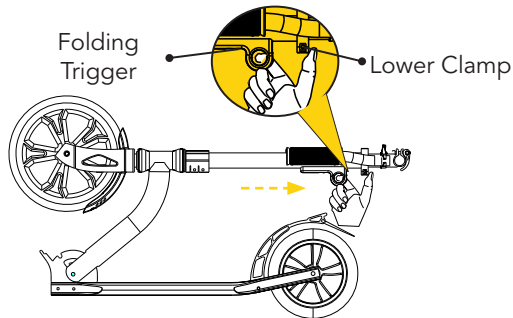

Fig. 2
1. Hold the scooter's stem with one hand. Slide your index finger of the other hand through the folding trigger. Pull the folding trigger up towards the handlebar. You will hear a "click" (Fig. 2).